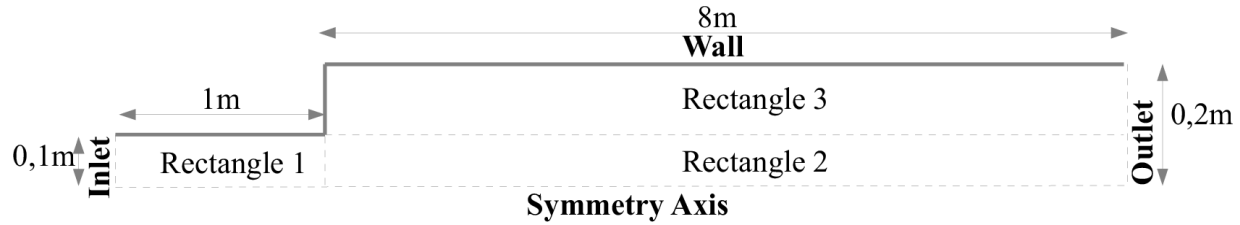
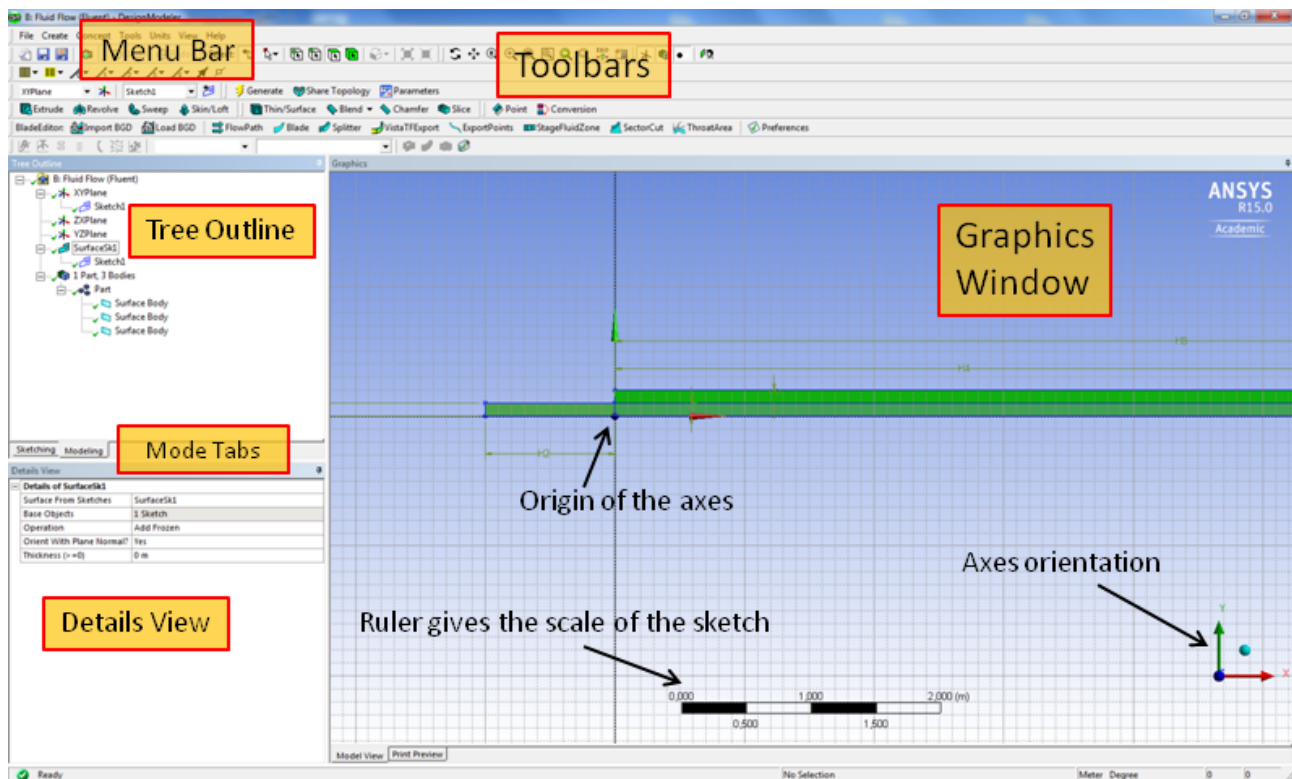

Figure 3: Computational domain and boundary conditions for the cylindrical expansion flow. The 2D computational domain is composed of 3 rectangular surfaces.
Figure 4: GUI of DesignModeler . Note that 2D geometries should be created in the XY plane. Click on the axes to change orientation of the graphics window.
According to the symmetries of the flow domain of Fig. 1, we assume that the flow is asymmetric so that it is only required to create the computational domain shown in Fig. 3. These assumptions allow us to do 2D computations instead of 3D, that will save computational time and memory space.
The graphics interface (GUI) of DesignModeler is shown in Fig. 4. The most relevant components are:
- Step 1) Sketching mode: draw the contours of the domain in one (or several) 2D sketches. It is easier to split the computational domain in several elementary entities (like the 3 rectangles of Fig. 3) and draw them separately.
Apply now this strategy to create the domain of Fig. 3. In the same sketch sketch, you will draw each of the 3 rectangles shown in this figure, then assemble them as a unique **part** with 3 distinct surface bodies.
- 1) In the sketching mode, create Rectangle 1 with the Draw toolbox of Fig. 3 and set its dimensions⁴. Repeat for the other 2 rectangles. Align them as shown in Fig. 4 by using the Constraints toolbox⁵.
- 3) You should have created 3 **parts** made from the 3 **surface bodies** you have drawn (look in the Tree Outline). Now, to assemble the 3 bodies in the same **part**, select them all and right-click on **Form New Part**. As a result, you have created the computational domain as 1 **part** made of 3 **surfaces bodies**, as in the tree outline of Fig. 4.
Now that the meshing of the computational domain is completed, the last step before starting the CFD analysis with the **Fluent** solver is to label the boundary conditions as in Fig. 3. To perform this, click on **Model** in the **Tree Outline**, then select a boundary edge in the **Graphics Window** and insert a **Named Selection**⁸. In the **Tree Outline**, rename it as shown in Fig. 3. The label of the boundary edges will be recognized by **Fluent** and the corresponding boundary condition will be applied.